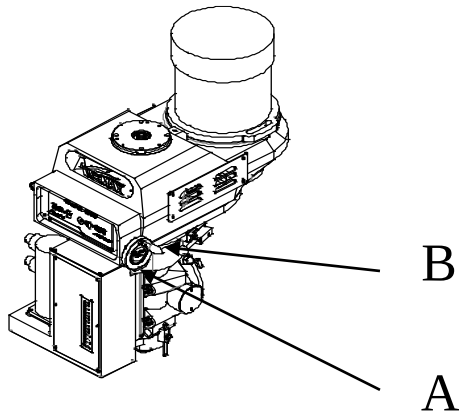
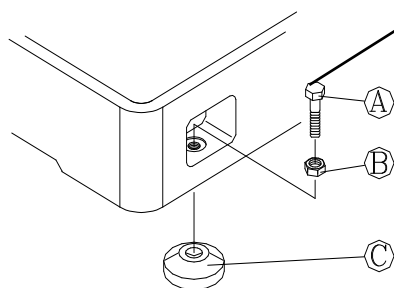

Fig. 5-2
Fig. 5-4
- (2) (Fig. 5.4) Before the adjustment, combine the horizontal bolt (A) and the nut (B), so that the nut is close to the head of bolt. Placing four horizontal block (C) to the horizontal bolt hole of the base, screw four bolts (A) into the blot hole until reach the center of the block (C) by using open-end spanner. Raise the machine to a height of approximately 5mm by turning the horizontal bolt clockwise. After that, starts the alignment.
- (3) New installation should calibrate the horizontal direction once a week and the calibration should be made every 6 months after the foundation solid.
5.4.2 Vertical Adjustment of Spindle and Worktable (Fig. 5-2)